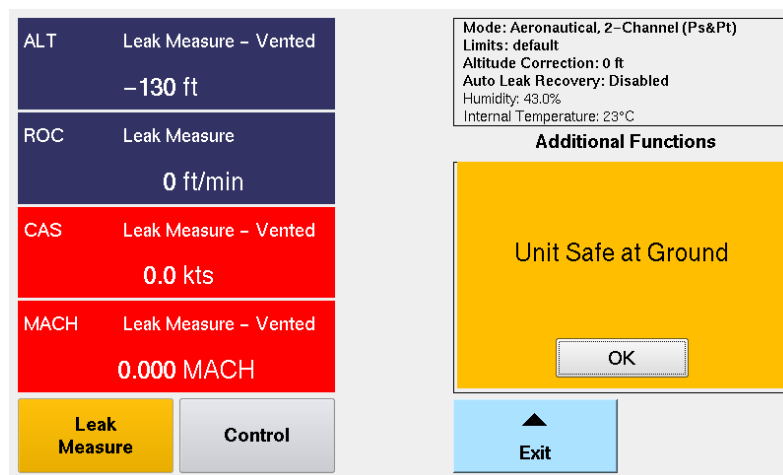

Figure H. 10 Unit Safe at Ground
16. Select “Yes”. The unit will briefly vent and a new screen is displayed with the message below (Fig. H. 10).